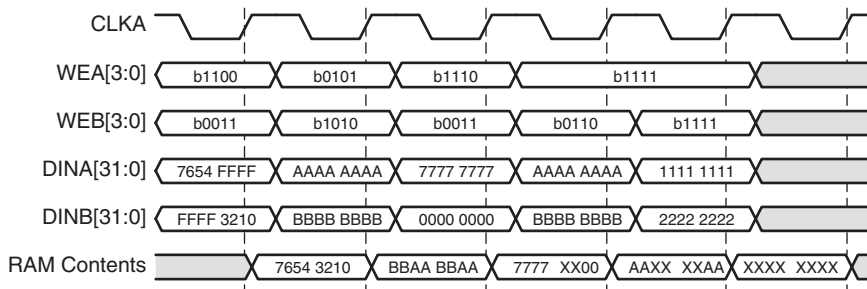

Figure 3-15: Write-Write Collision Example
- **Using Byte-Writes:** When using byte-writes, memory contents are not corrupted when separate bytes are written in the same data word. RAM contents are corrupted only when both ports attempt to Write the same byte. Figure 3-15 illustrates this case. Assume $addra = addrb = 0$.